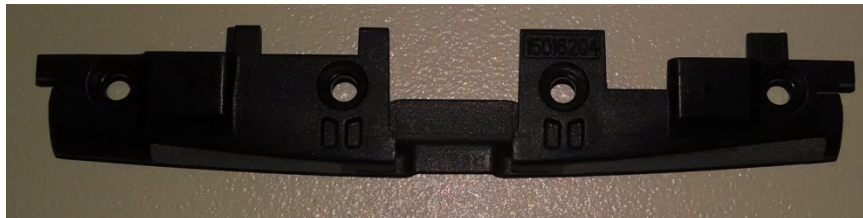

Figure 1: Quantum Bottom Antenna Carrier
Step 2: If retest does not pass, check if the unit has the bottom antenna carrier assembled correctly. The Quantum bottom antenna carrier should look like Figure 1. Make sure all the screws to hold the bottom carrier are placed.